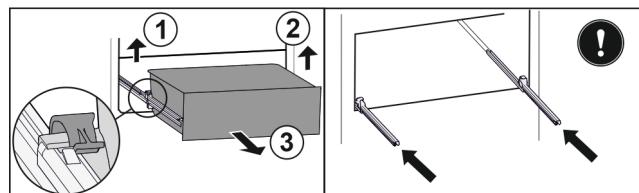

Fig. 144
- ▶ Lift left clamp and simultaneously pull drawer forwards on the left. Fig. 144 (1)
- ▶ Lift right clamp and simultaneously pull drawer forwards on the right. Fig. 144 (2)
- ▶ Remove drawer to the front. Fig. 144 (3)